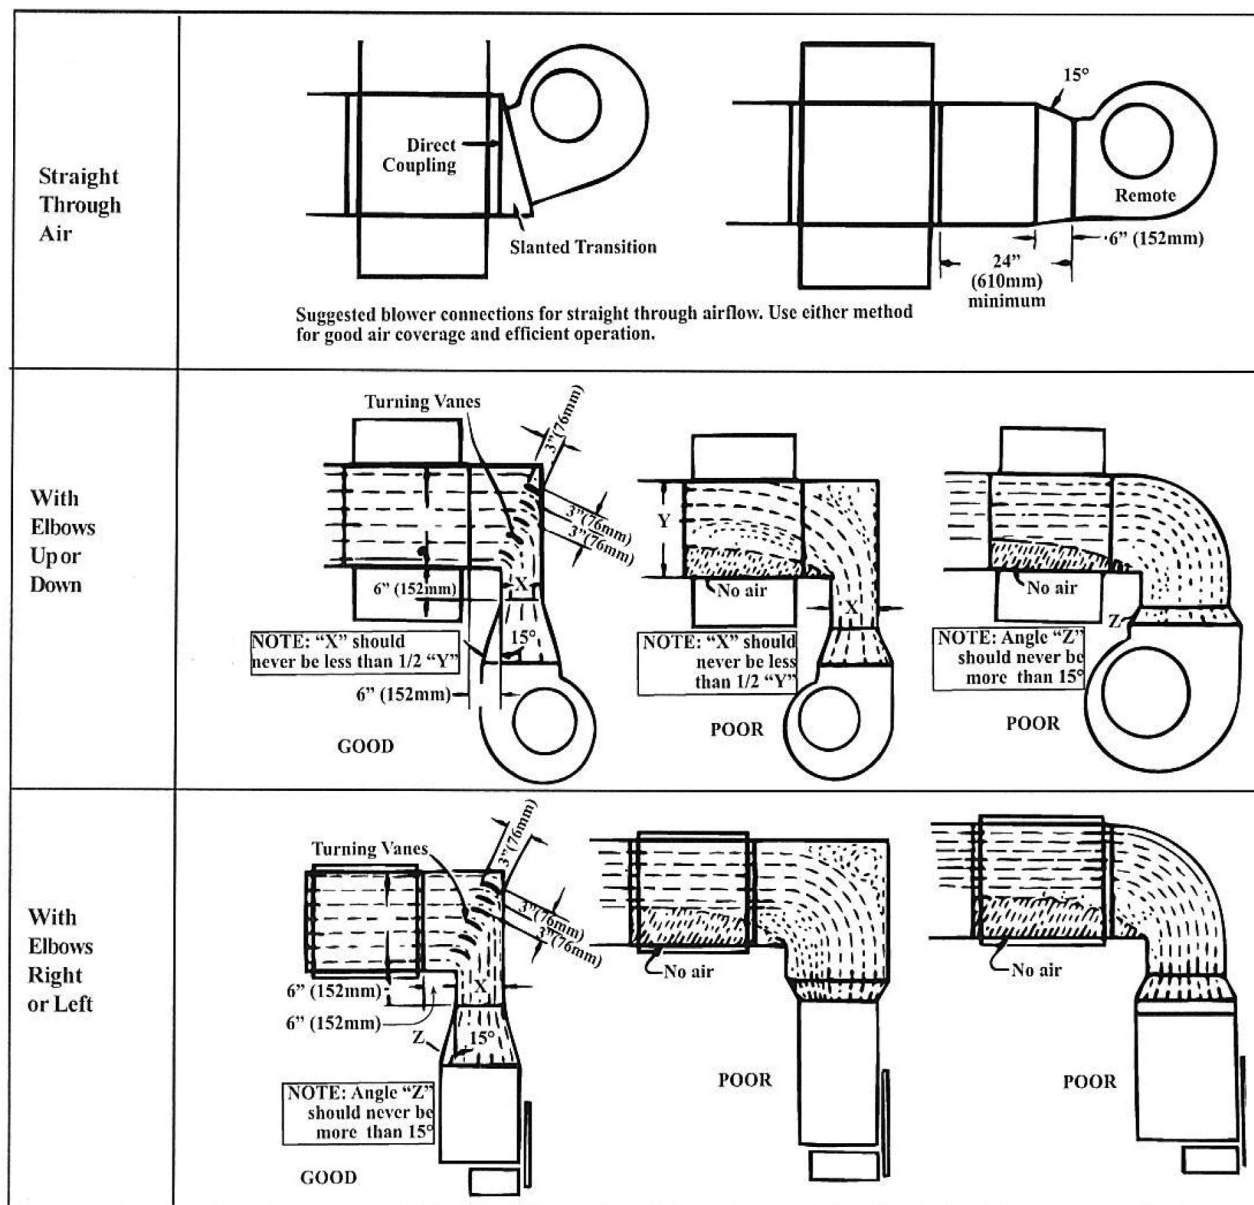

Figure 13. Suggested Blower Connections
- Proper arrangements of the blower and the duct furnace with respect to the angle of approach of the duct connection and the arrangement of the discharge opening of the blower are shown in Figure 13.